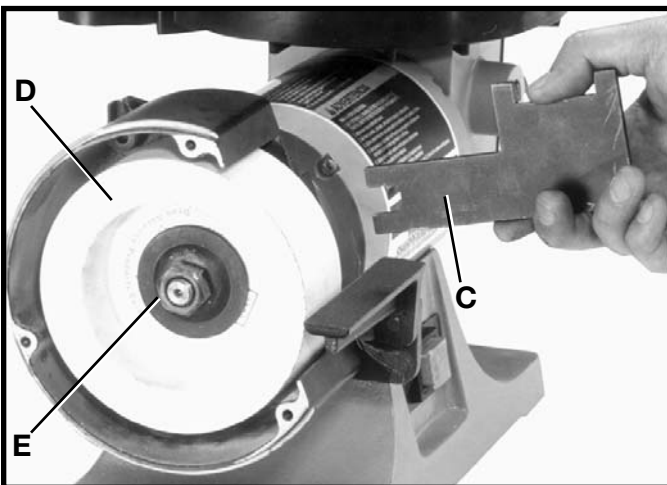

Fig. 61
2. Using wrench (C) Fig. 61, supplied, hold motor shaft on inside of grinding wheel (D) to keep shaft from turning and remove wheel nut (E). Use a 13/16 wrench (not provided).